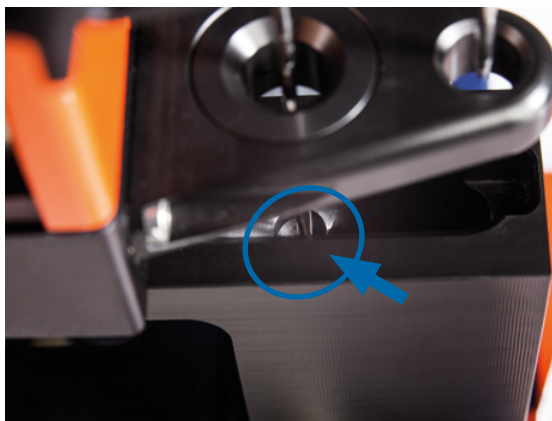

Figure 5.3: Uptake needle position in the washing station (arrow).
- 1 Chose current position to start with (recommended, press **Use**). The needle arm will automatically move towards the washing station. The uptake needle should be located directly above the center of the **rear opening** of the washing station (see figure 5.3).